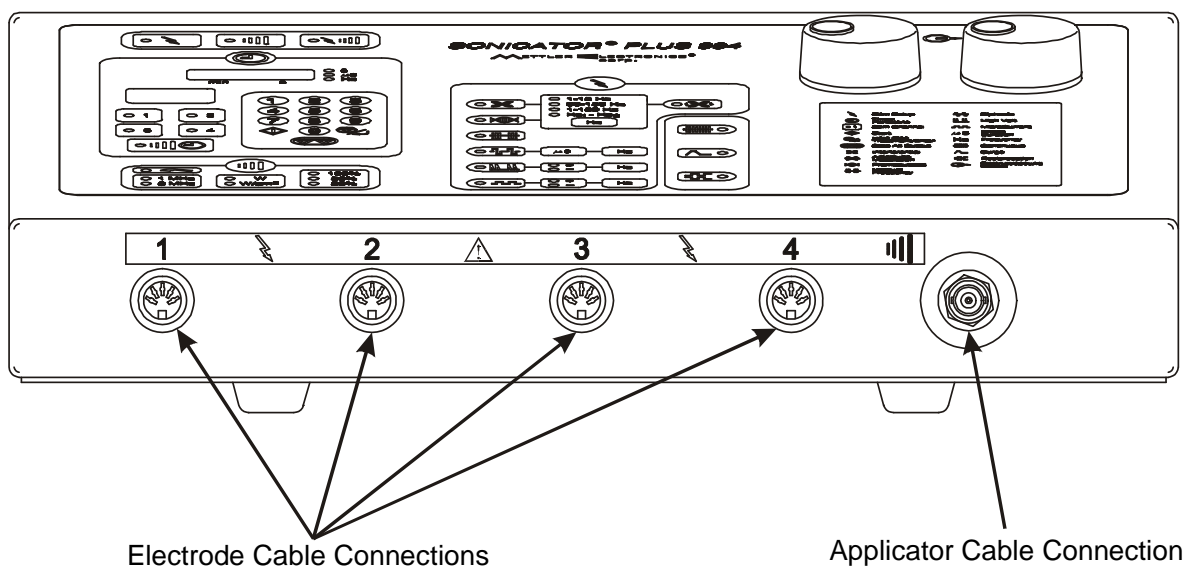
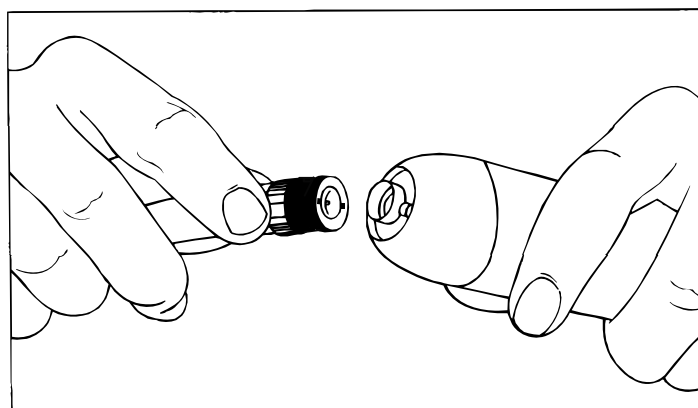

Figure 3.2 – Sonicator Plus 994, Front View –
Figure 3.3 – Connecting the Applicator to the Universal Applicator Cable, *line up pegs, push in all the way and rotate 1/4 turn clockwise*
4. Push the hooded, water-proof applicator cable connector (ME 7392) into the round BNC receptacle located on the front of the Sonicator Plus 994. (See Figure 3.2) Connect applicator to universal applicator cable using the BNC connector. (See Figure 3.3) Secure both connectors by rotating them  $\frac{1}{4}$  turn clockwise. To maintain waterproof characteristics of the BNC connectors make sure that all connections are dry before attempting to connect them. ***Please Note:** The applicator model 7513, comes standard with the Sonicator 994. Other applicators that may be used with the Sonicator Plus 994 are the models 7331 and 7310. Verify that the applicator is labeled for use with the Sonicator Plus 994 before attaching it to the unit. This information is contained on the applicator label.*
6. Plug the electrode cables (ME 2260) into the electrode cable connections as seen in Figure 3.2. For combination therapy procedures, plug the single line electrode cable (ME 2261) into the electrode connection for Channel 1.
- For combination therapy make sure the single line electrode cable (ME 2261) is attached to electrode cable connection for Channel 1 as seen in Figure 3.2. For electrical stimulation connect electrode cables (ME 2260) into the electrode connections for the channels that are going to be used.